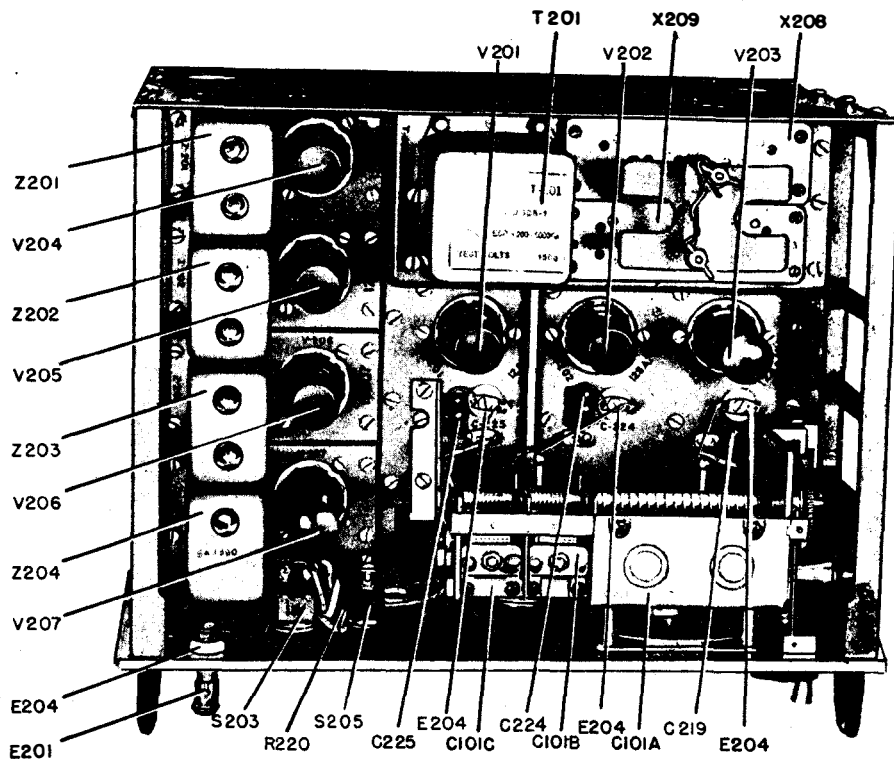

Figure 7-25 Open Top View of Receiver
(1) Remove power from the receiver by placing POWER switch S205 in the "OFF" position. Disconnect the power cable from the receiver.
(2) Remove the receiver from its cabinet and place upright on the work bench. Reconnect the power cable.
(3) Connect the audio-output meter to the receiver-output circuit by attaching one lead of the meter to terminal 9 of the POWER CONNECTOR P201 and the other lead to ground.
(4) Place the MOD.-CW switch S203 in the "MOD." position.
(5) Turn off the automatic volume control by a slight counter-clockwise rotation of the R.F. GAIN control R216 from its maximum clockwise position. Rotate this control only until a click is heard (indicating the throwing of the AVC switch S206) and leave the control in this position. Fully advance the A.F. GAIN control R220.
(6) Connect the signal-generator output across the control grid of the converter tube V202 (Terminal No. 8 of X202) and ground. No dummy antenna should be used. Set the signal generator to feed a 455-Kc signal, 30% modulated at 400 cycles, into the converter tube.
(7) Place POWER switch S205 in the "ON" position and adjust all i-f transformer trimmers for maximum output as indicated by the audio-output meter (refer to figure 7-25).
(1) Loosen the adjusting-screw lock nut on the capacitance trimmer of the beat-frequency oscillator coil Z204 (refer to figure 7-25).